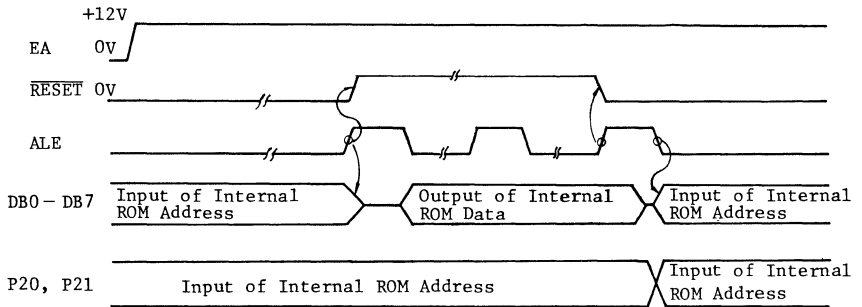

Fig. 7 Timing of Reading Internal Program Memory
- Figure 7 illustrates the timing diagram for this operation.
(5) Single Step Operation.